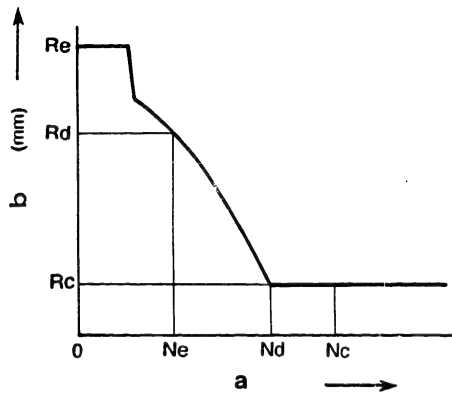

Fig. 152
2. Adjust the control rod position to "Rc" using the idle adjusting screw (50) (refer to Figs. 152 and 153).
3. Decrease the pump speed to "Ne rpm" and adjust the idling spring capsule (140) using the wrench (KDEP 2648) so that the control rod position is "Rd" (refer to Figs. 152 and 154).
4. Confirm that the control rod position is "Re" or more when the pump speed is 0 rpm and that the control rod position is "Rc" when the pump speed is increased to "Nd rpm" (refer to Fig. 152).